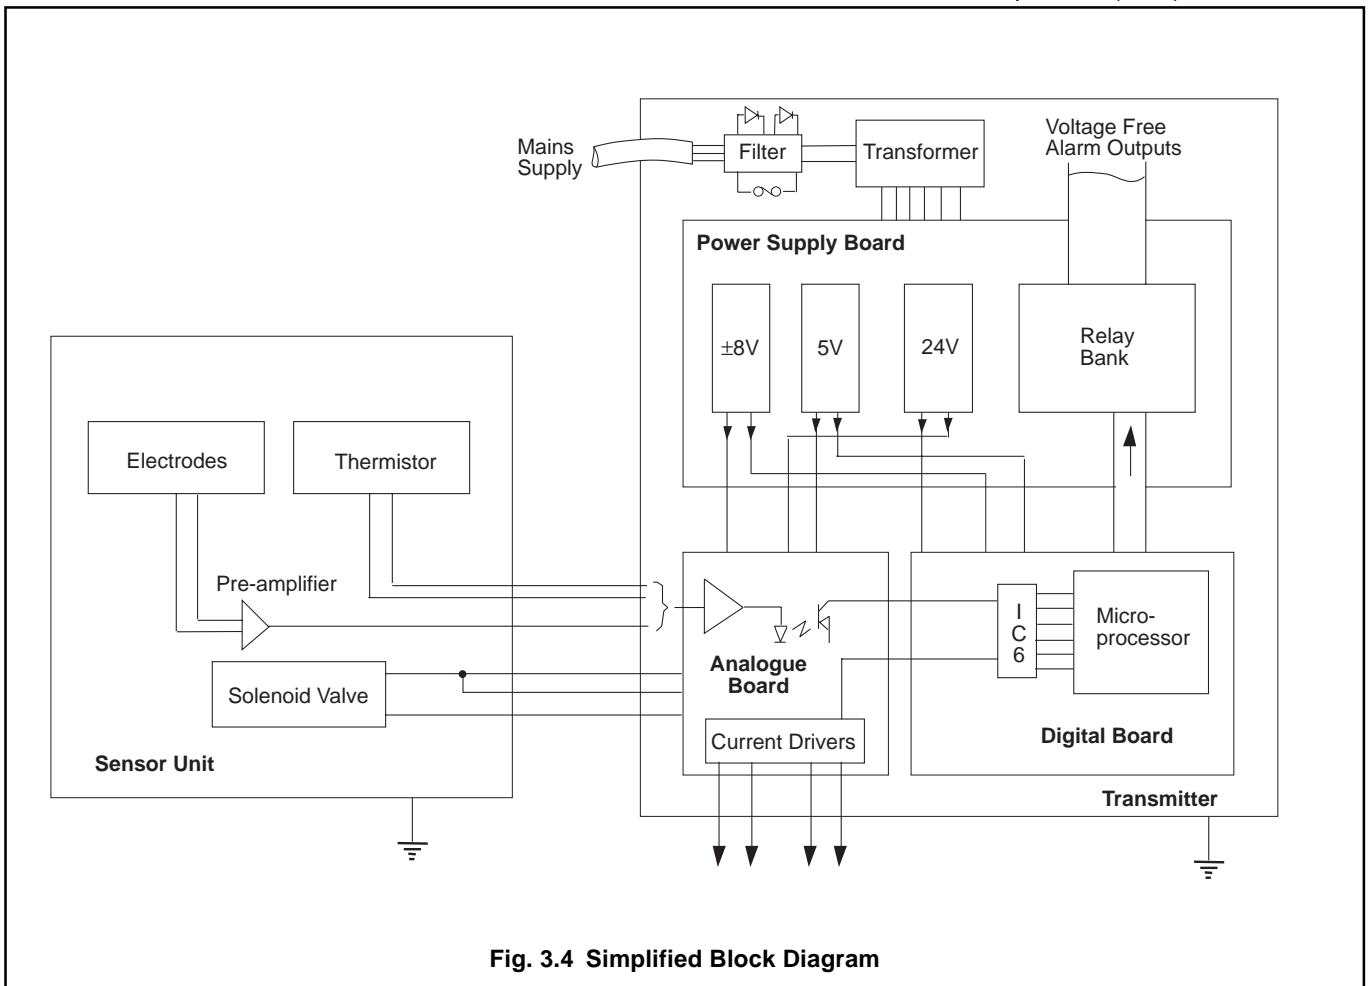

Fig. 3.4 Simplified Block Diagram
3.2.2 Front Panel Controls (Fig. 3.4)